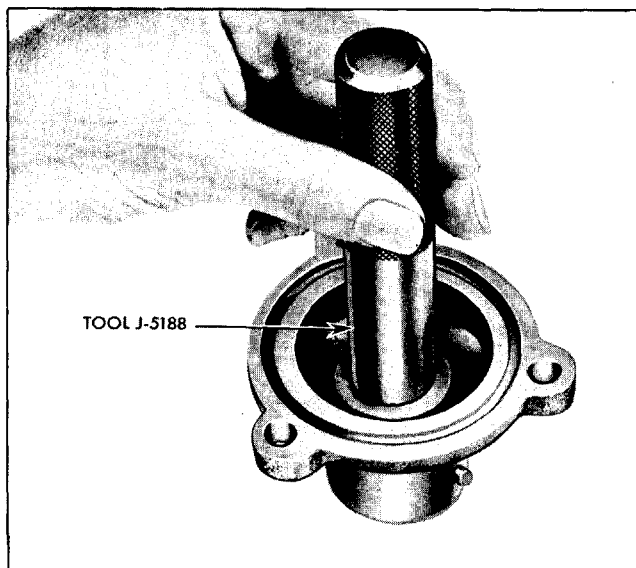

Fig. 9-46 Installing Seal in Valve Body Cover
9. Install new seal in valve body cover, if seal was removed, using tool J-5188 (Fig. 9-46).